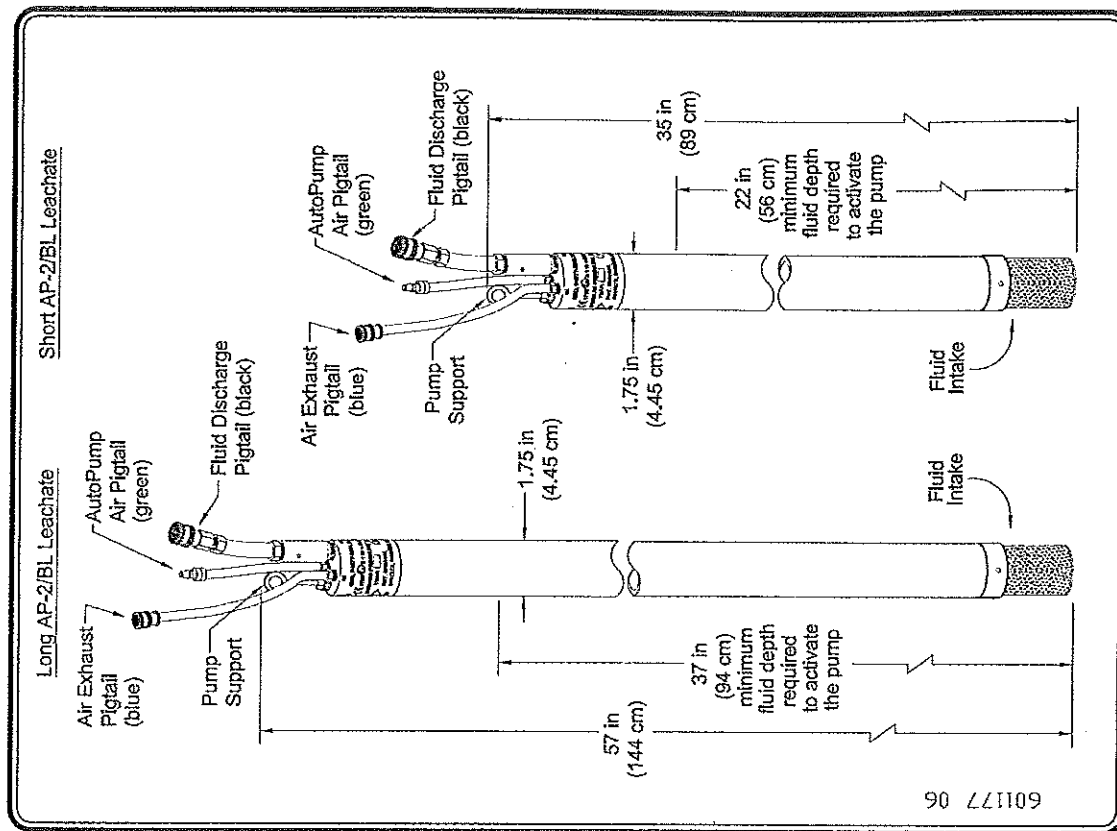

Figure 7 - Long and Short AP-2 Bottom Loading with Leachate Screen
- **Extended Leachate Screens** – (see figure 7)
All lengths (Long and Short) and intake configurations (Bottom-Loading) are available in models for landfill leachate, condensate pumping and dewatering applications. (See Figure 7)